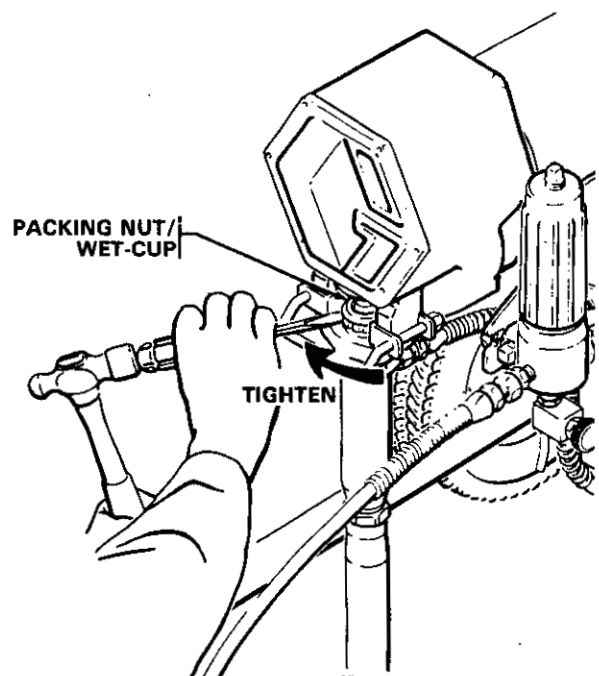

Fig 6
- Check the packing nut/wet-cup daily. First follow the **Pressure Relief Procedure Warning** on page 10. Be sure the wet-cup is 1/3 full of TSL at all times to help prevent paint buildup on the piston rod and premature wear of packings. The packing nut should be tight enough to stop leakage, but no tighter. Overtightening may cause binding and excessive packing wear. Use a screwdriver and light hammer to adjust the nut. See Fig 6.